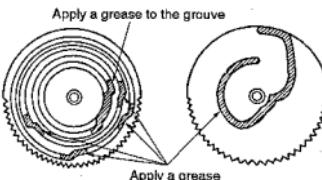

Fig. 8
- ① Grease the cam gear. (Fig. 8)